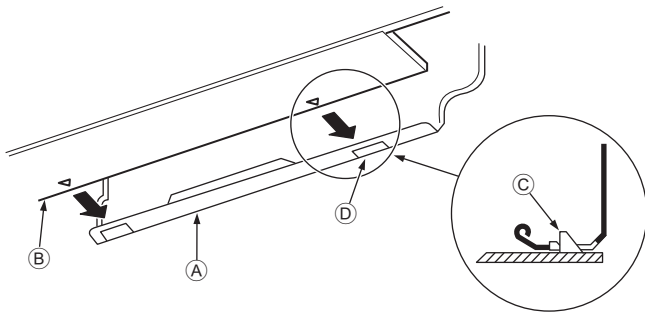

Fig. 3-10
#### 5. Fasten by pushing the bottom part of the indoor unit onto the mount board ①. (Fig. 3-10)